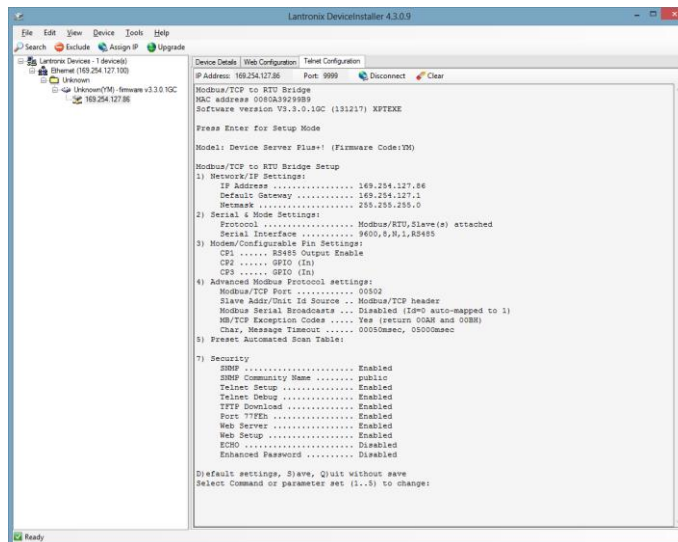

Fig 6.4.1
6.4 As shown in fig 6.4.1, enter '2' to select "Serial & Mode Settings".